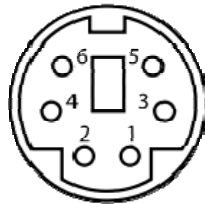

Figure 3-10: PS/2 Keyboard/Mouse Connector
- CN Location:** See **Figure 3-10**